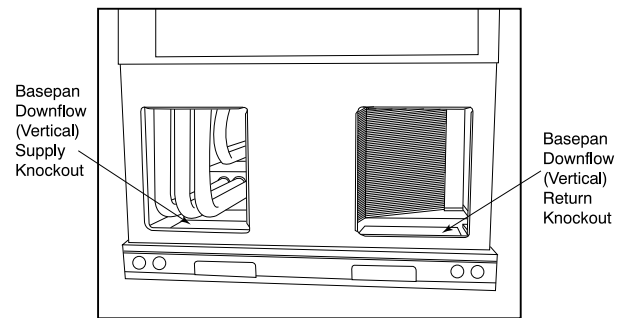

Fig. 6 – Supply and Return Duct Opening
2. Remove horizontal (metal) ductcovers to access vertical (downflow) discharge duct knockouts in unit basepan. (See Fig. 6)
NOTE: These panels are held in place with tabs similar to an electrical knockout. Reinstall horizontal duct covers (Fig. 6) shipped on unit from factory. Insure openings are air and watertight.